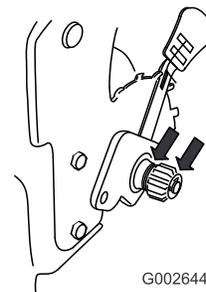

Figure 44
- Apply a lubricating oil to the inner and outer sides of the gear as shown in Figure 44.